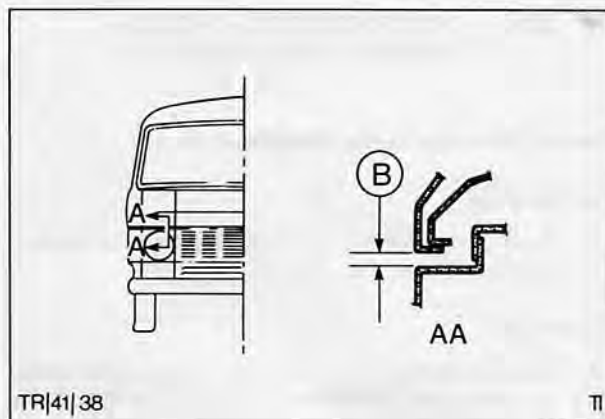

Fig. 10. Hood setting – underside of hood to grille panel
4. Close hood, ensuring striker, fully engages hood lock spring. Check visible clearance between underside of hood and cross-member. This should be $7,5 \pm 1,5$ mm. Fig. 10. If necessary screw striker in, or out, to achieve this setting.